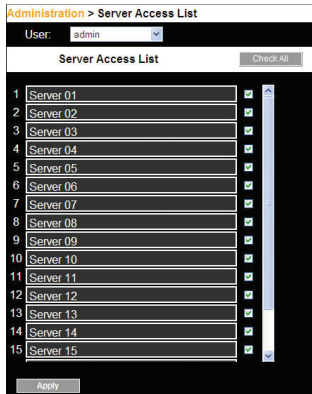

Figure 18 Server Access List Configuration
- From the menu, click “Server Access List”. The Access List Configuration window will appear (see Figure 18).